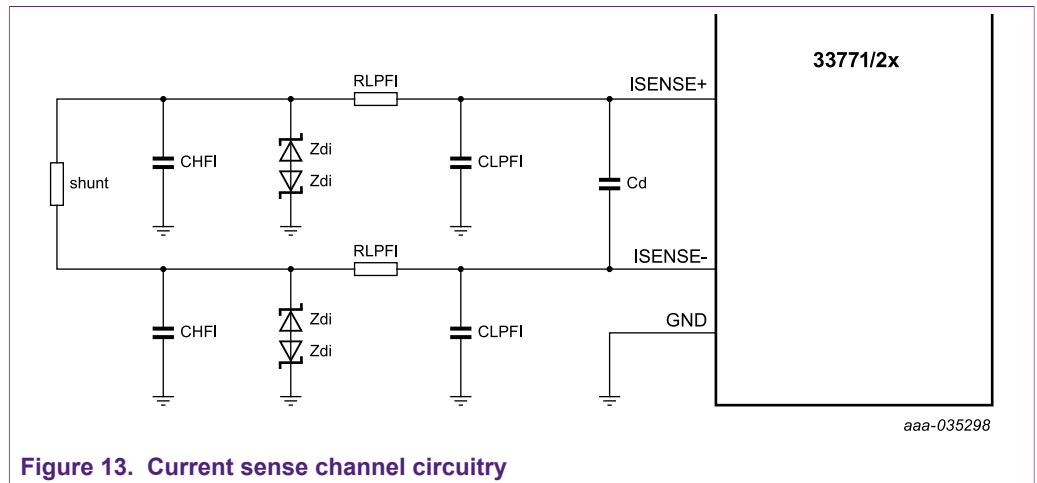

Figure 13. Current sense channel circuitry
- Add a back to back protection Zener diode on  $I_{SENSE+}$  and  $I_{SENSE-}$  pins, shown in Figure 13.